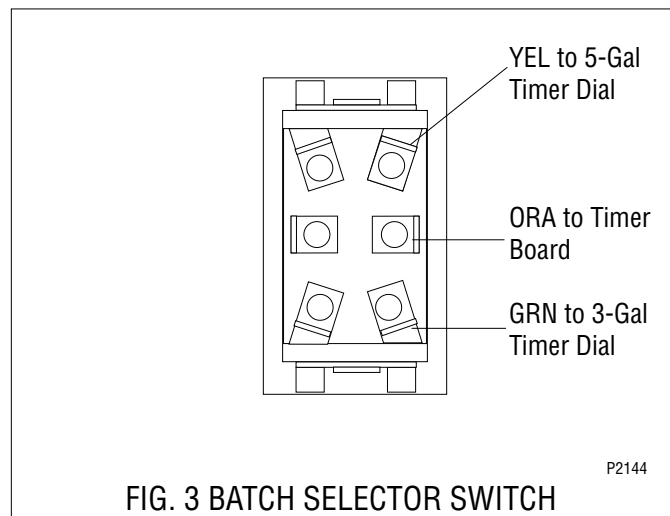

FIG. 3 BATCH SELECTOR SWITCH TERMINALS
4. Refer to Fig. 3 when reconnecting the wires.